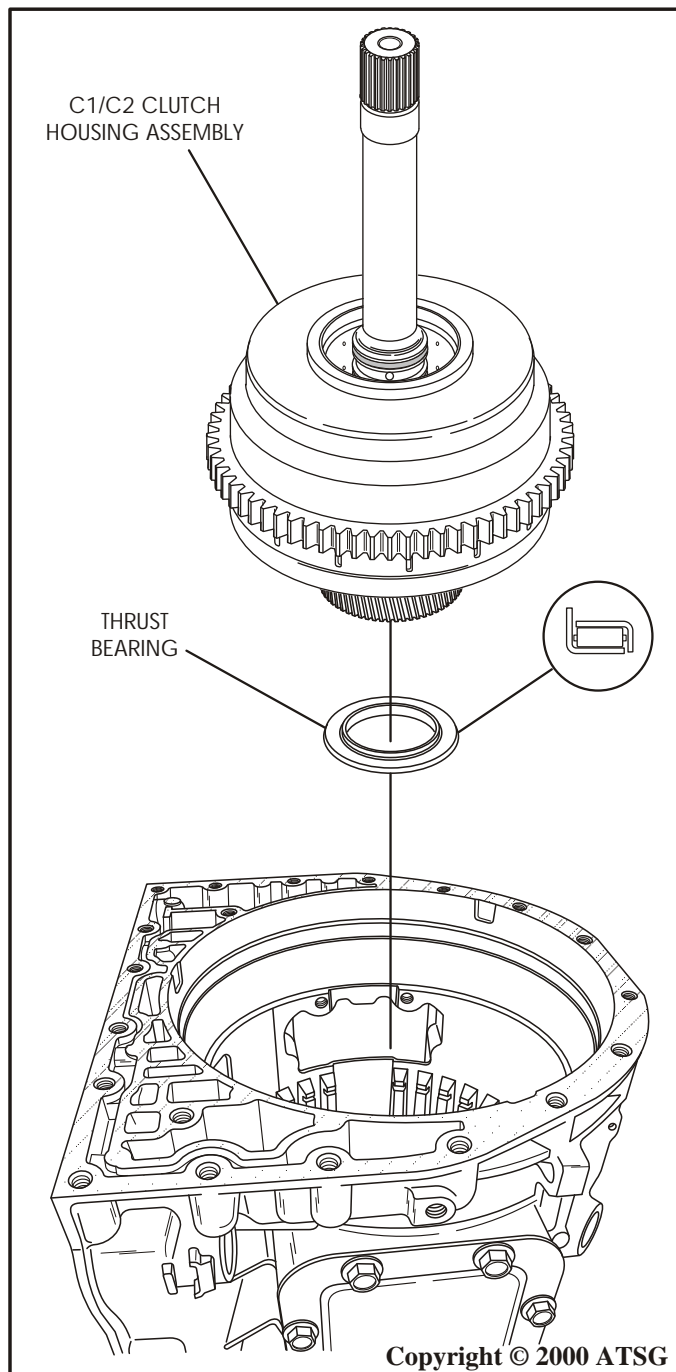

Figure 57
29. Remove the C1/C2 clutch housing from the case by lifting straight up using the turbine, as shown in Figure 57.
Note: Remove the sun gear/planetary carrier thrust bearing if it is not stuck to sun gear as shown in Figure 57.